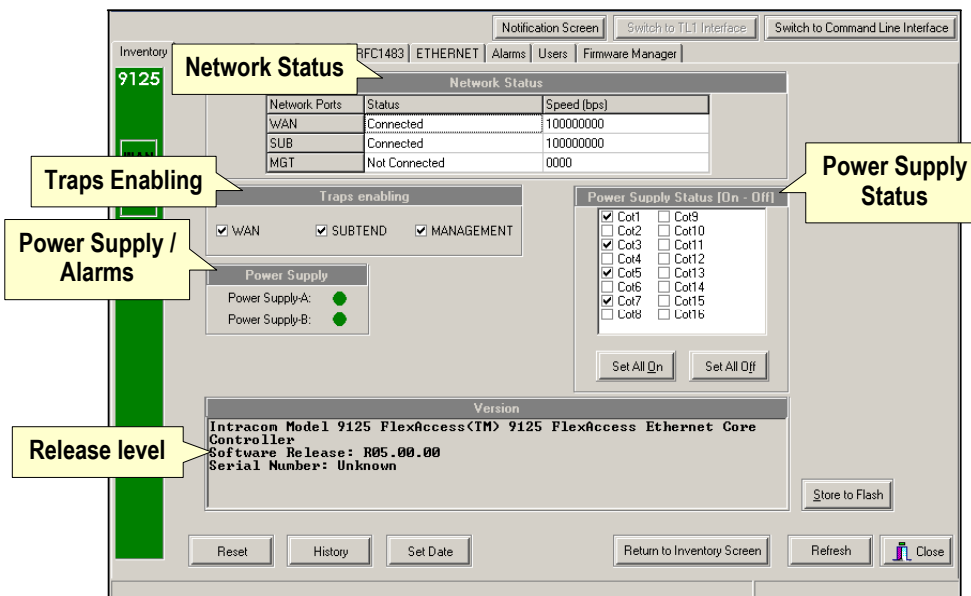

Figure 50 – Core Controller Inventory status screen
- 1 From the main **Inventory** screen, click **zoom** at the bottom of the 9125 card icon. *The Core Controller Inventory status screen (Figure 50) appears.*